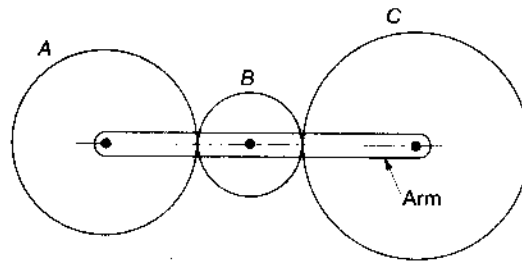

Fig.12.23 Epicyclic gear train
- 2 In an epicyclic gear train, as shown in Fig.12.23, the number of teeth on wheels *A*, *B* and *C* are 50, 25 and 52 respectively. If the arm rotates at 420 rpm clockwise, find (a) speed of wheel *C* when *A* is fixed, and (b) speed of wheel *A* when *C* is fixed.